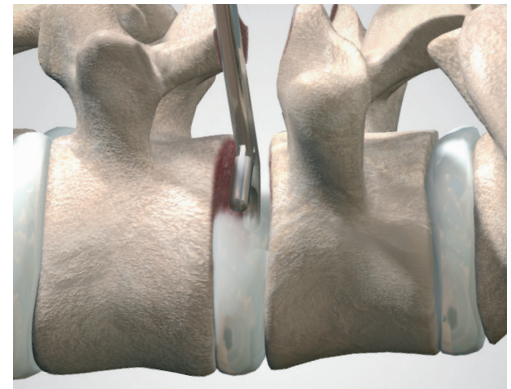

Figure 3
- ▲ Remove the disc through the laminotomy and/or facetectomy window leaving only the anterior and lateral annulus intact (Fig. 3).